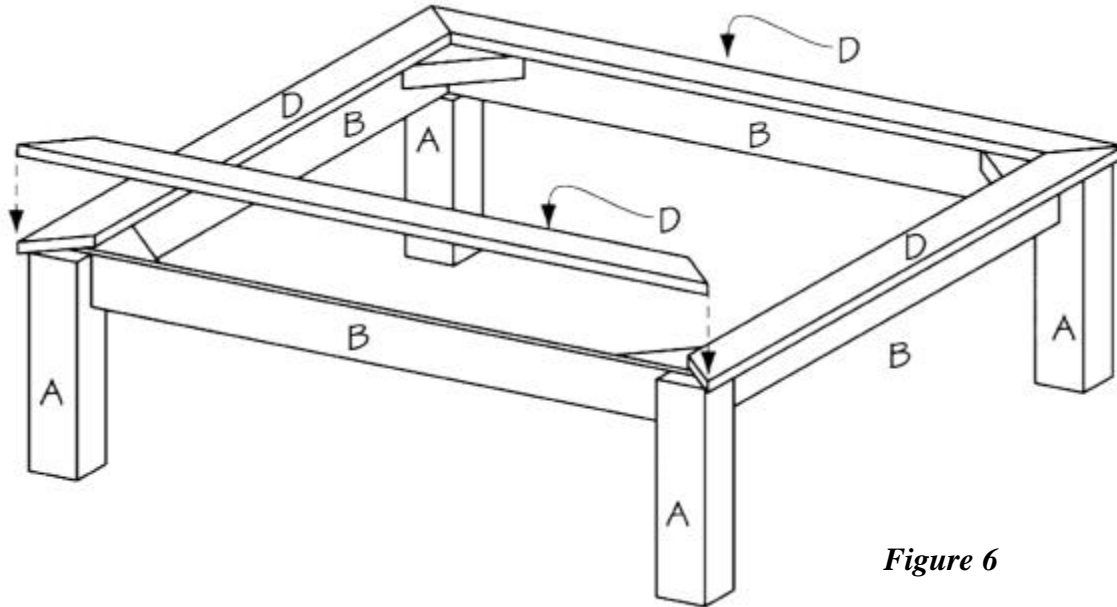

Figure 6
3. The top trims (D) lay flat on top of the base assembly. Their miters should align with the miters of the side rails (B), they should extend inward past the sides rails (B) by 1/2 inch, and they should extend outward past the legs (A) by 1/2 inch, as shown in *Figure 6*. Apply glue to the top edge of each side rail (B) and screw through each top trim (D) into a side rail (B). Use 1 1/2-inch screws spaced about every 6 inches. Use a 2 1/2-inch screw to fasten each end of each top trim (D) to the top of its leg (A), making sure that the top faces of the top trims (D) are flush.
4. Cut one center (E) from 1/2-inch-thick plywood, 46 x 46 inches square.
5. Apply glue to the meeting surfaces and position the center (E) over the top trims (D), matching the corners of the center (E) to the mitered joints between the top trims (D), as shown in *Figure 6*. Screw through the center (E) into the top trims (D) using 1-inch screws spaced every 6 inches or so.
6. Cut four top frames (F) from 1 x 4 pine, each measuring slightly over 50 inches long. Rip each top frame (F) to 2 inches in width.
8. Apply glue to the edges of the center (E), the top surfaces of the top trims (D), and the mitered surfaces of the top frames (F). Clamp the top frames (F) to the top trims (D) as shown in Figure 6. The outside of the top frames (F) should be flush with the edges of the top trims (D). Screw from the bottom through the top trims (D) into the top frames (F), using 1 1/4-inch screws placed 1 inch from the outside of the top trims (D) and spaced about 6 inches apart.